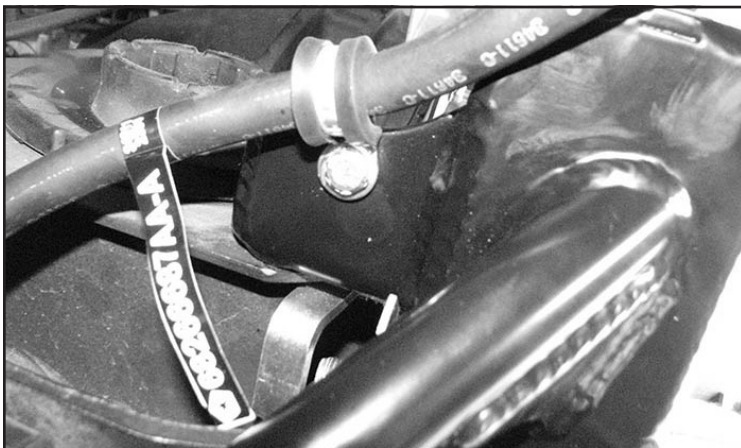

FIGURE 66 - STEP 59
59. Locate the supplied 1/4"-20 x 1" bolt, nut, washers and FTCLAMP-LB10 rubber cushioned clamp and install on the rear axle breather tube, mounting it to the hole provided on the new track bar bracket. Torque to 14 ft-lbs. **SEE FIGURE 66**